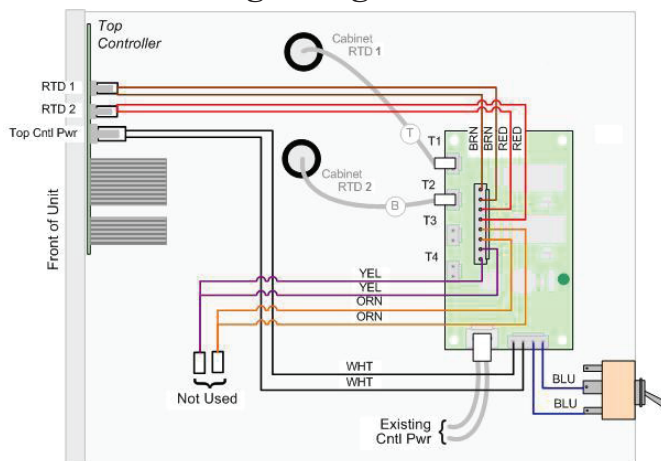
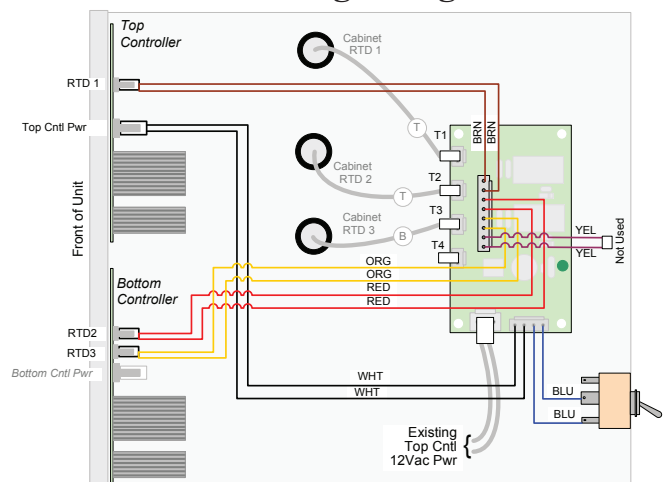

Figure 2
Figure 3
6. Within the control compartment, remove (2) 1/4"-20 X 3/4" right-side bolts (upper 2 bolts for 3-high and 4-high units) and mount the new RTD Interface Board in the orientation shown, using the (2) existing bolts.
7. Use diagrams (Figure 2, 3 or 4) and the following steps to connect the new Jumper Harness.
9. Unplug RTD #1 from the Heat Control Board (**TOP** Control Board for 3-high & 4-high units) and reconnect to the proper mating connector on the new RTD Interface Board, referencing (Figure 2 & Figure 3). Repeat the process for **RTD #2** to **T #2**, **3** to **3**, and **4** to **4**.